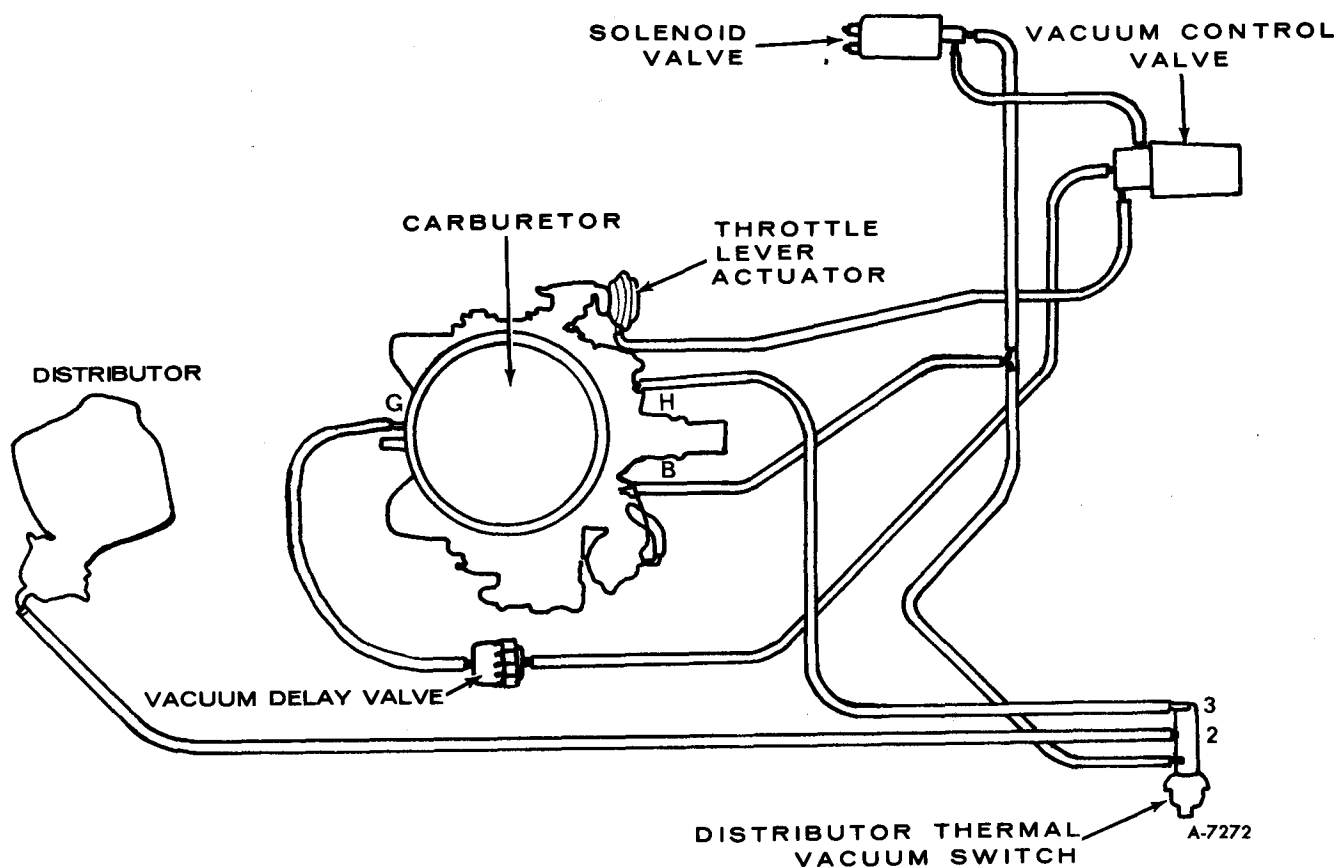

Figure 5—Emission Control Vacuum Hose Schematic (All Engines Except California)
NOTE: Figure 5 is a schematic of the TVS and TRC system components and hose routing for all engines except California. Figure 6 is an emission control schematic of 1977 California engines.
TVS (ALL ENGINES EXCEPT CALIFORNIA) (FIGURE 5)
4. Remove external vacuum source, vacuum gauge, and port cap. Reconnect vacuum hoses to proper port on switch (figure 5).
Vacuum hose routings for the throttle return control (TRC) system is shown in figures 5, 6 and 7. Figure 8 illustrates a simplified layout of the TRC system.